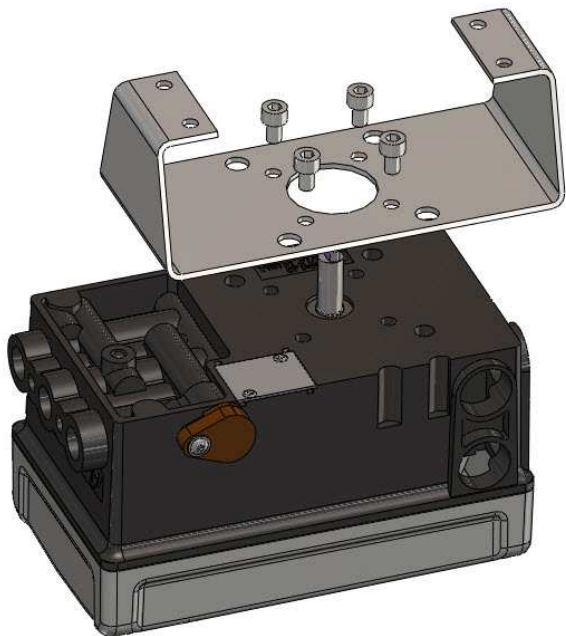

Figure 17: AutoMax Bracket
- 11 Attach the mounting plate to the positioner using 4 screws. See Figure 17.